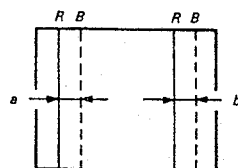

Fig. 3-8
- Adjust the H TILT (RV1701) so that the RED and BLUE shown in Fig3-8 will become $a=b$.